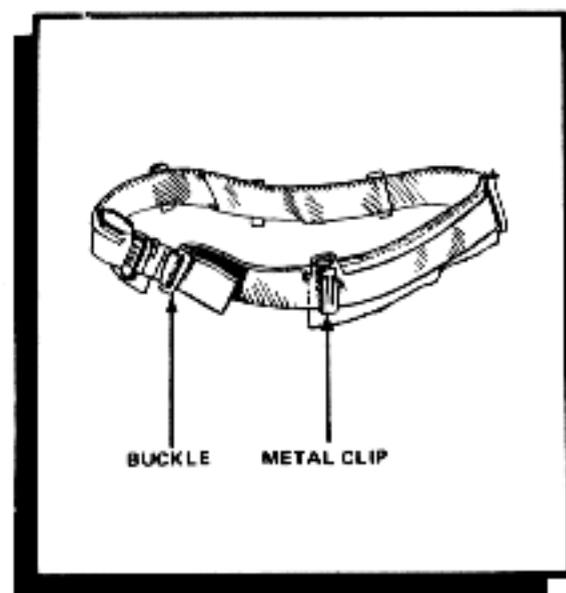

Figure 2-18. Helmet liner headband.
**Liner headband.** The helmet liner headband (figure 2-18) is a leather-lined web strap. It has six metal clips and a buckle for attaching and adjusting the headband to the liner. To install the headband in the liner—